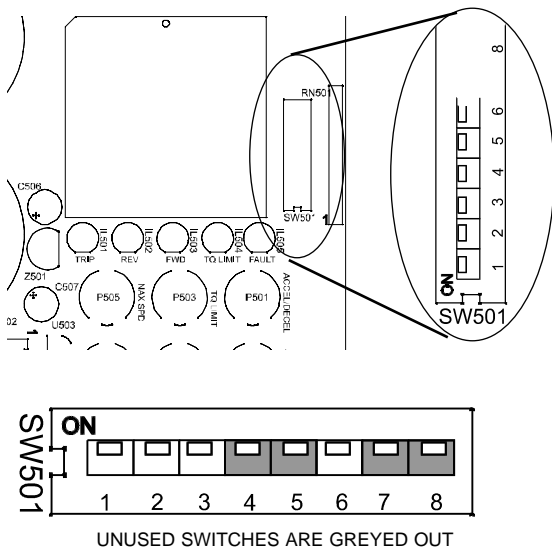

Figure 8. DIP Switch Layout
(See Figure 8, pg. 18)
2. Set DIP switches 1, 2, and 6 to ON; set DIP switches 3, 4, 5, 7 and 8 to OFF. See Figure 8 for DIP switch locations.